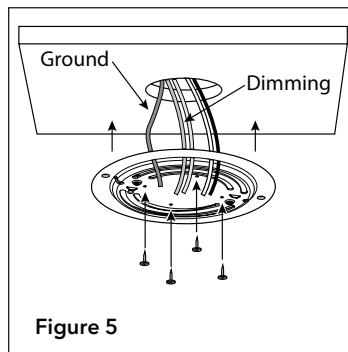

Figure 5
Step 5. Pull line, neutral, and ground wires (if required) through mounting plate and fasten mounting plate to ceiling (Fig. 5).